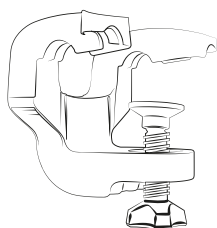

Fig. 2. Fixation stand
• Install the device on even surface (for example, on a table) on its 5 suction cups. If necessary fasten it with the fixation stand (Fig. 2).